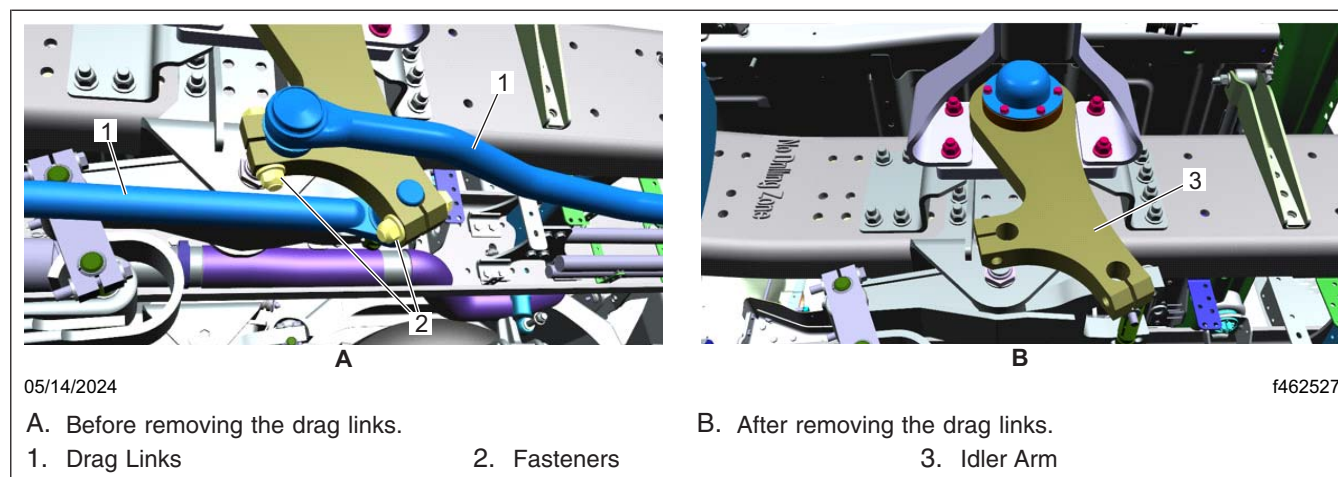

Fig. 1, Removal of the Drag Links
3. Remove the idler arm fasteners, and remove both drag links from the idler arm. See Fig. 1.